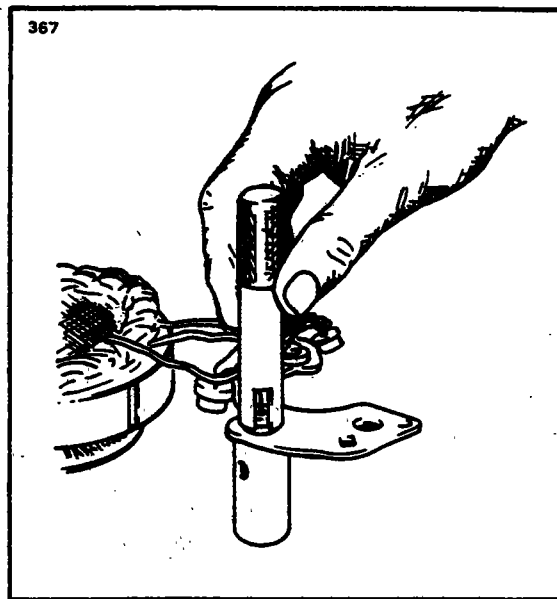

Figure 11-79. Installation of Rectifier
b. Carefully install the rectifiers in the slip ring end head or rectifier mounting plate by supporting the unit and using the special tools illustrated in Figure 11-79.